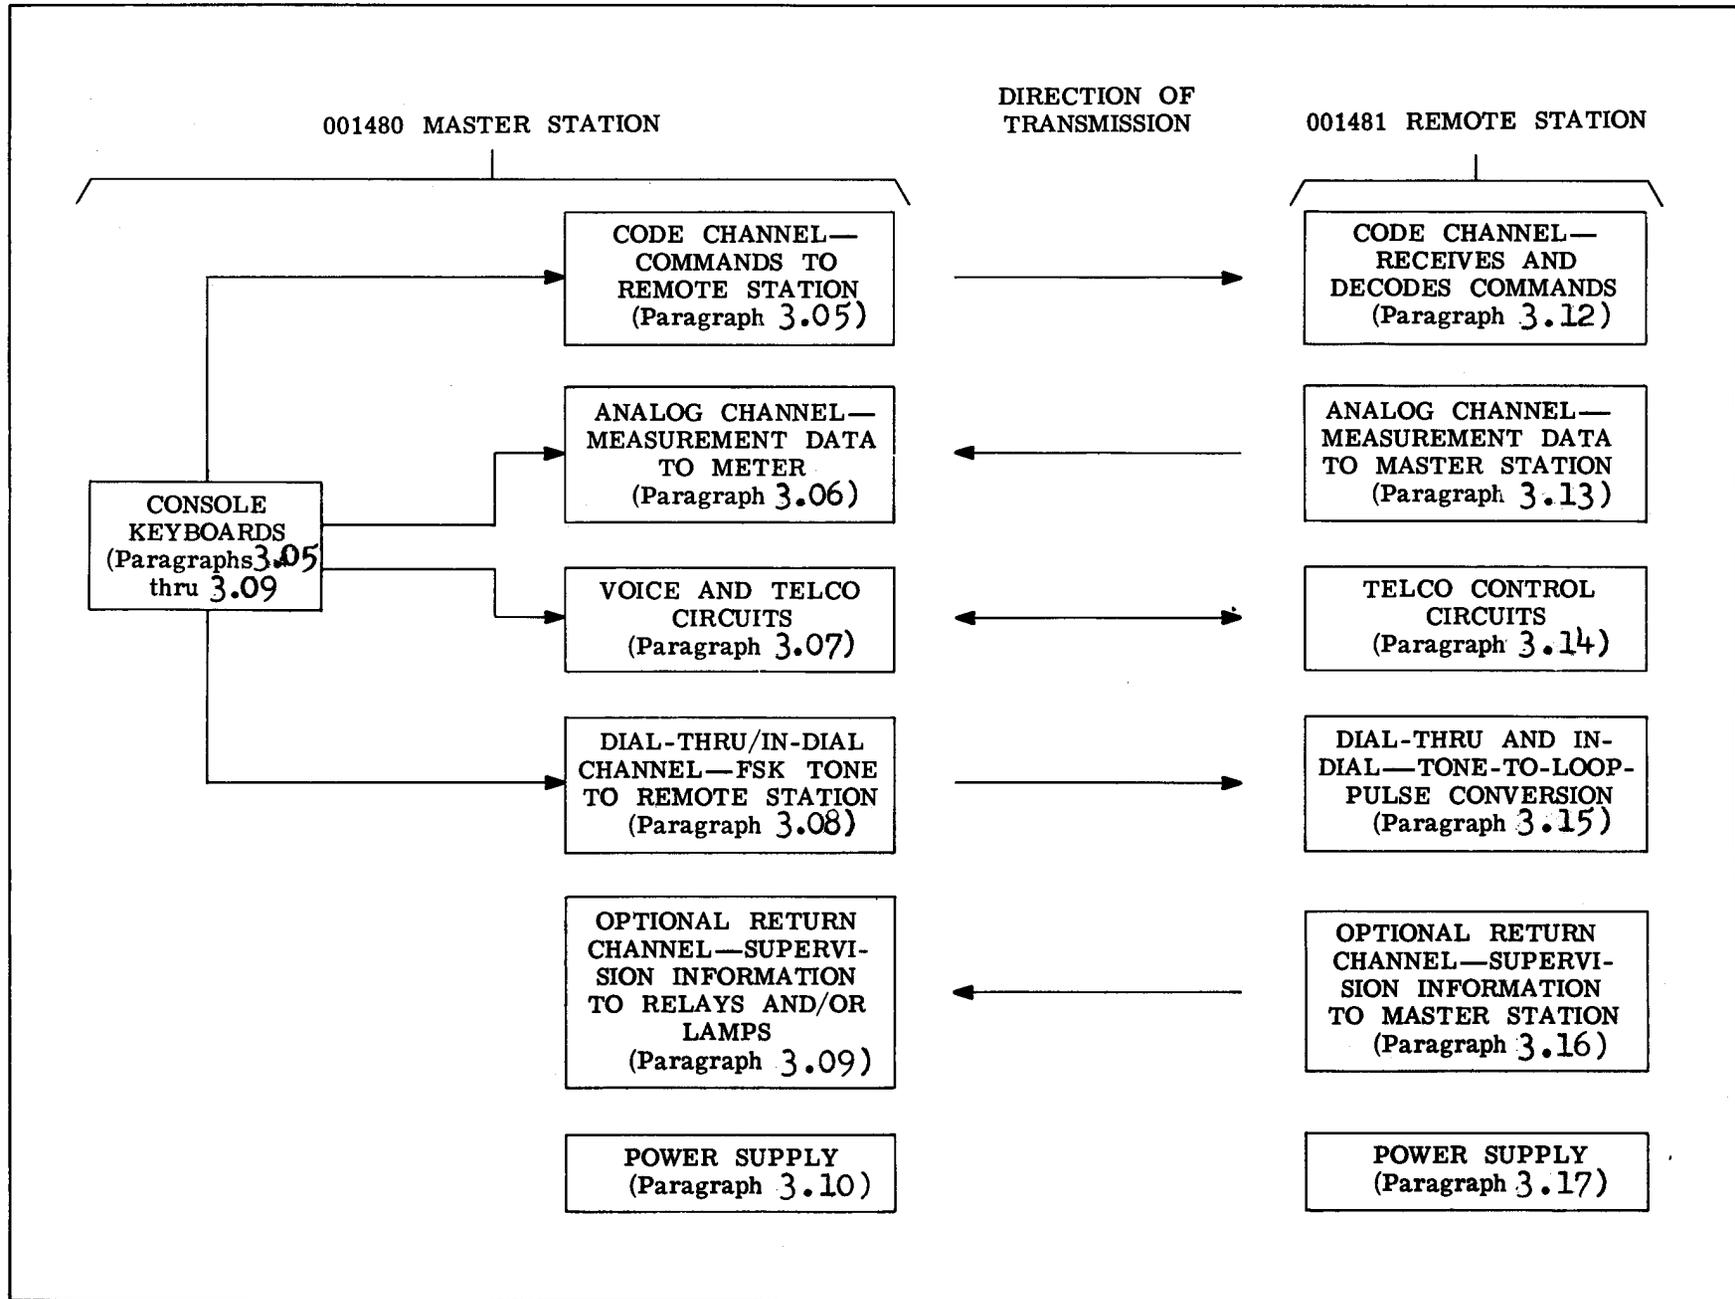

Figure 6 - Diagnostic Block Diagram of CL612A's Subsystems, with Textual References
3.03 TROUBLE ISOLATION - Basically, the CL612A System can be broken into a number of subsystems, allowing fast and direct decisions to be made regarding the location of trouble. The subsystems are identified in Figure 6, together with their reference paragraphs in this practice. Before attempting to trace a trouble to one of the subsystems, it is advisable first to determine in which part of the system the fault lies. Is the remote station malfunctioning, or the master station? If there are several remote stations in the system, access them and observe their responses (if any); a problem experienced with just one of them indicates a fault at that station. The same abnormal response from all remote stations, however, points to the master station as the source of trouble.